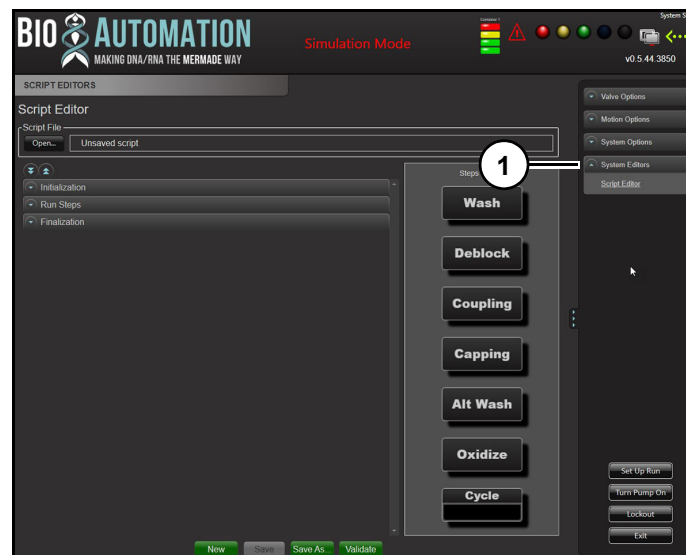

Figure 58
System Editor (1) (Figure 58) allows user to modify and create script files.